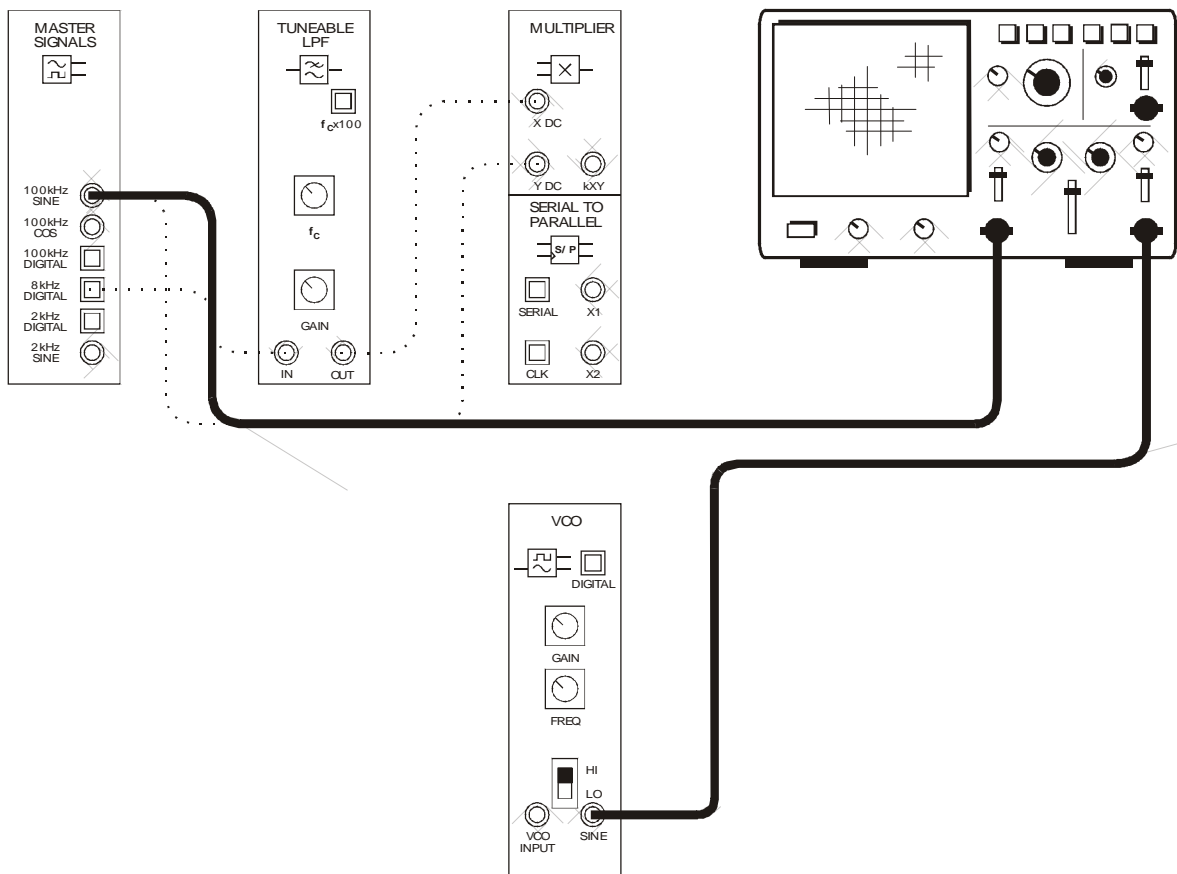

Figure 7
15. Modify the scope's connections as shown in Figure 7 below.